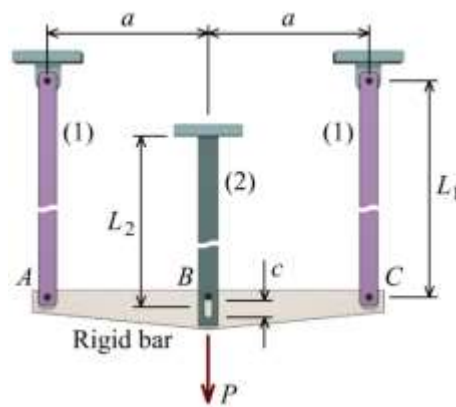

FIGURE P2.6
**P2.6** The rigid bar  $ABC$  is supported by three bars as shown in Figure P2.6. Bars (1) attached at  $A$  and  $C$  are identical, each having a length of  $L_1 = 160$  in. Bar (2) has a length of  $L_2 = 110$  in.; however, there is a clearance of  $c = 0.25$  in. between bar (2) and the pin in the rigid bar at  $B$ . There is no strain in the bars before the load  $P$  is applied, and  $a = 50$  in. After application of load  $P$ , the tensile normal strain in bar (2) is measured as  $960 \mu\epsilon$ . What is the normal strain in bars (1)?
**P2.8** The sanding-drum mandrel shown in Figure P2.6 is made for use with a hand drill. The mandrel is made from a rubber-like material that expands when the nut is tightened to secure the sanding sleeve placed over the outside surface. If the diameter  $D$  of the mandrel increases from 2.00 in. to 2.15 in. as the nut is tightened, determine